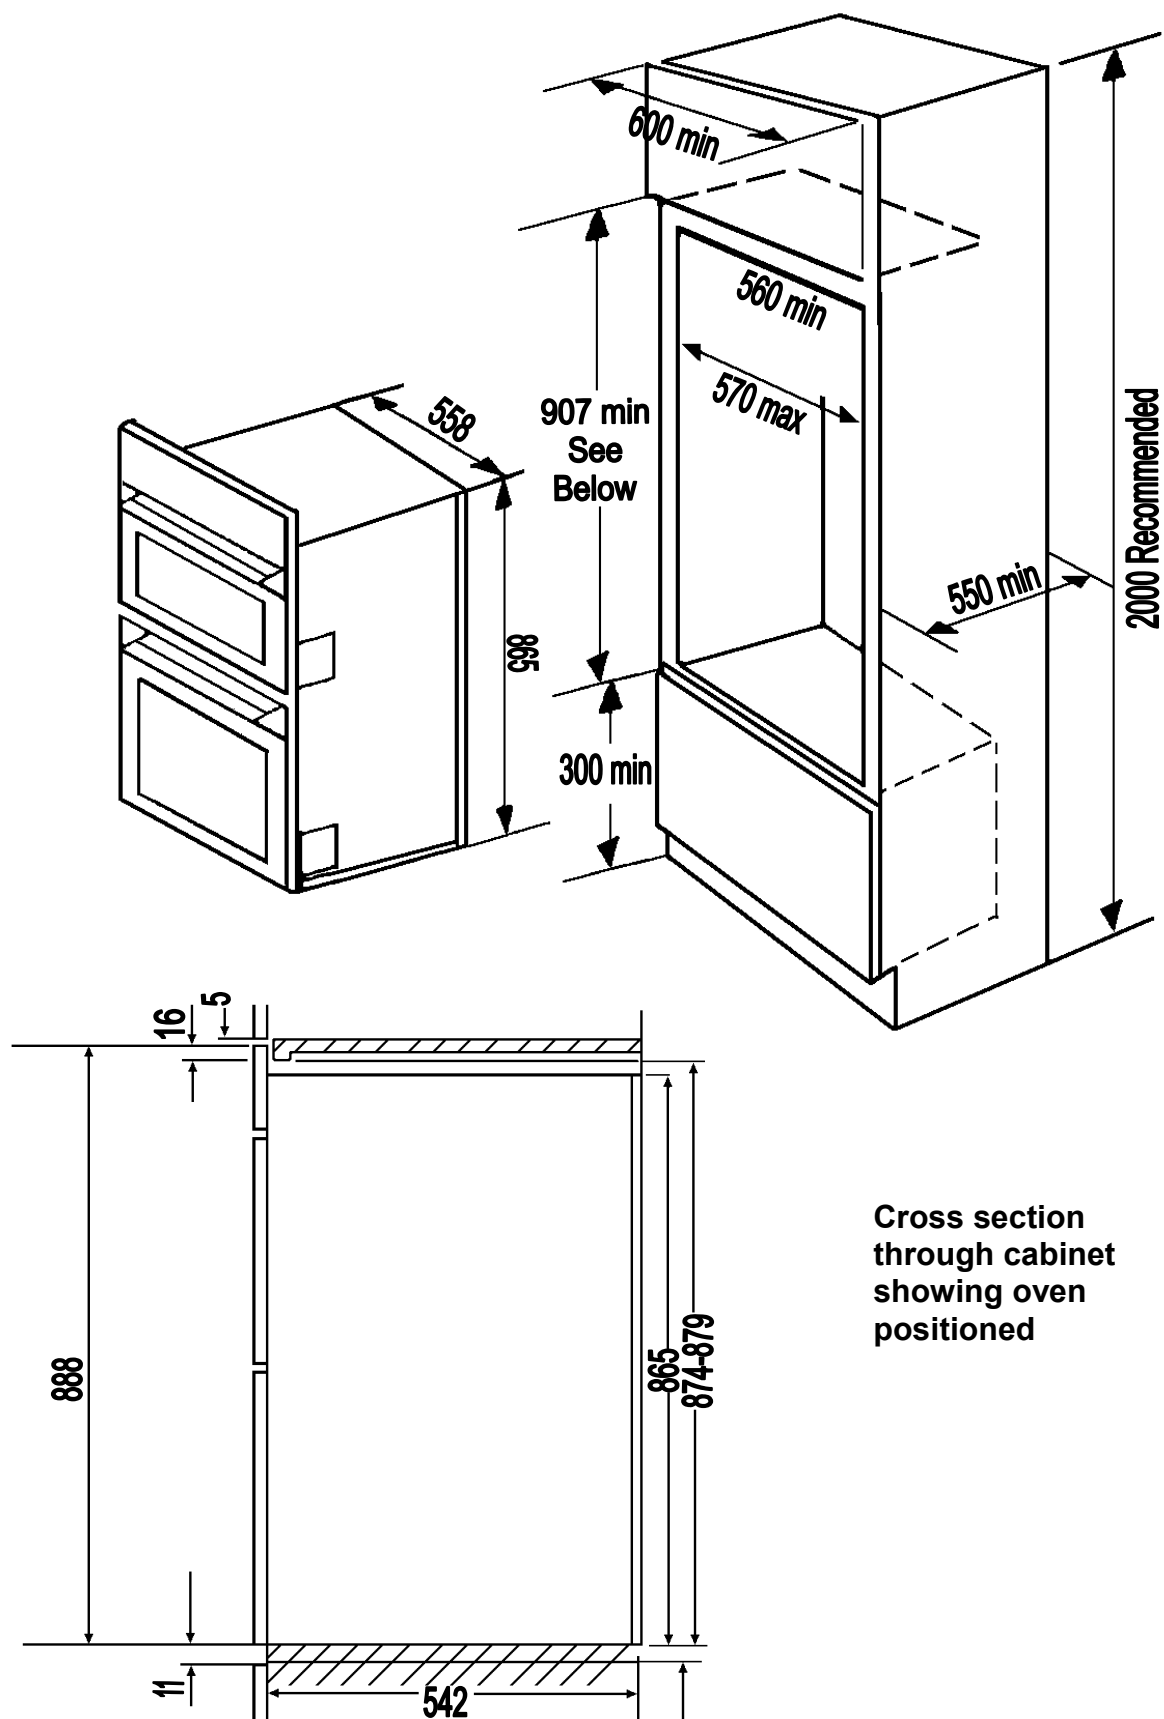

Fig. 2 Built In Installation
- This appliance is designed to be fitted in cabinets of the recommended dimensions as shown (Fig.2).
- Make sure that the cabinet is the correct size for the appliance to be fitted (Ref. Fig. 2).